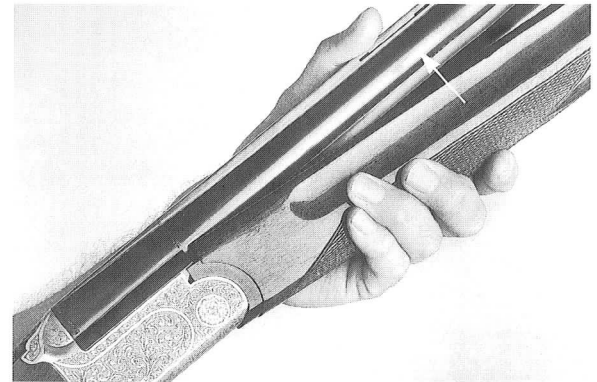

Fig. 5
9. With the forearm at about 30 degree to the barrels, slide the rear of the forearm on to the receiver, fit inside the receiver bottom then gently pivot the forearm on to the barrels and be sure the forearm latch is seated. **(Fig. 5.)**